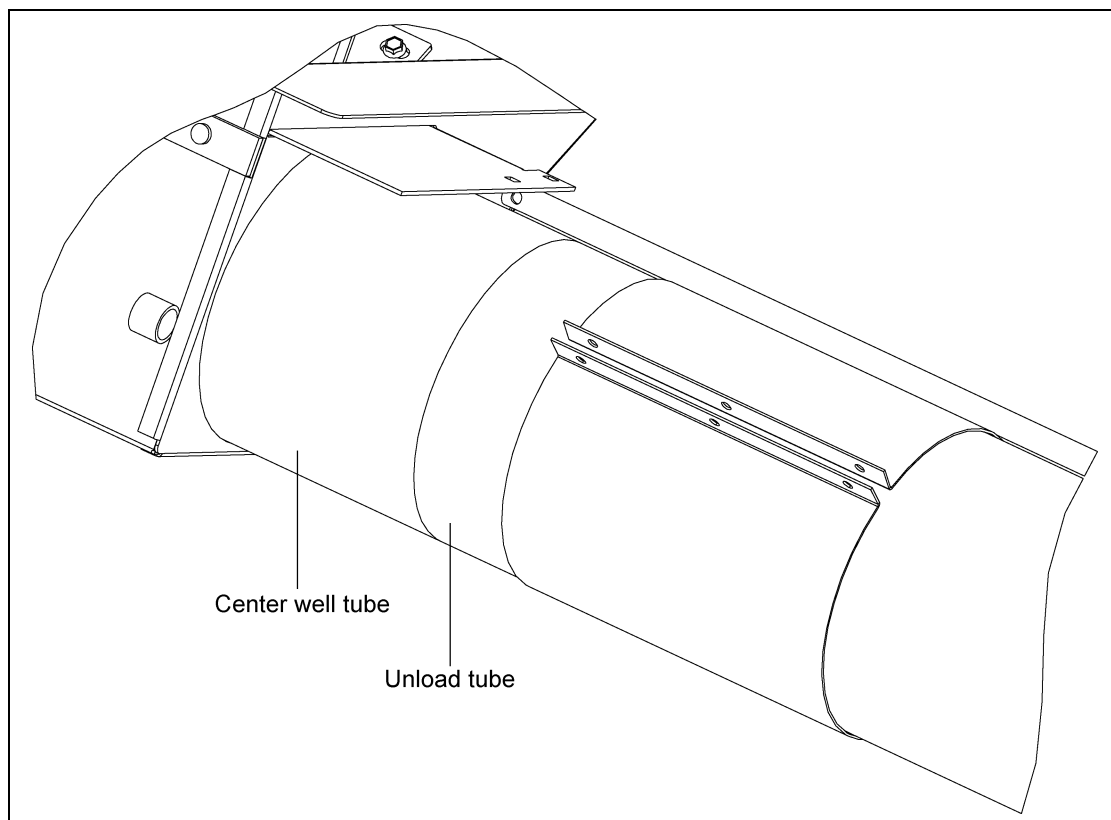

Figure 4I
4. Position the unload tube flush against the center well tube. *(See Figure 4I.)*